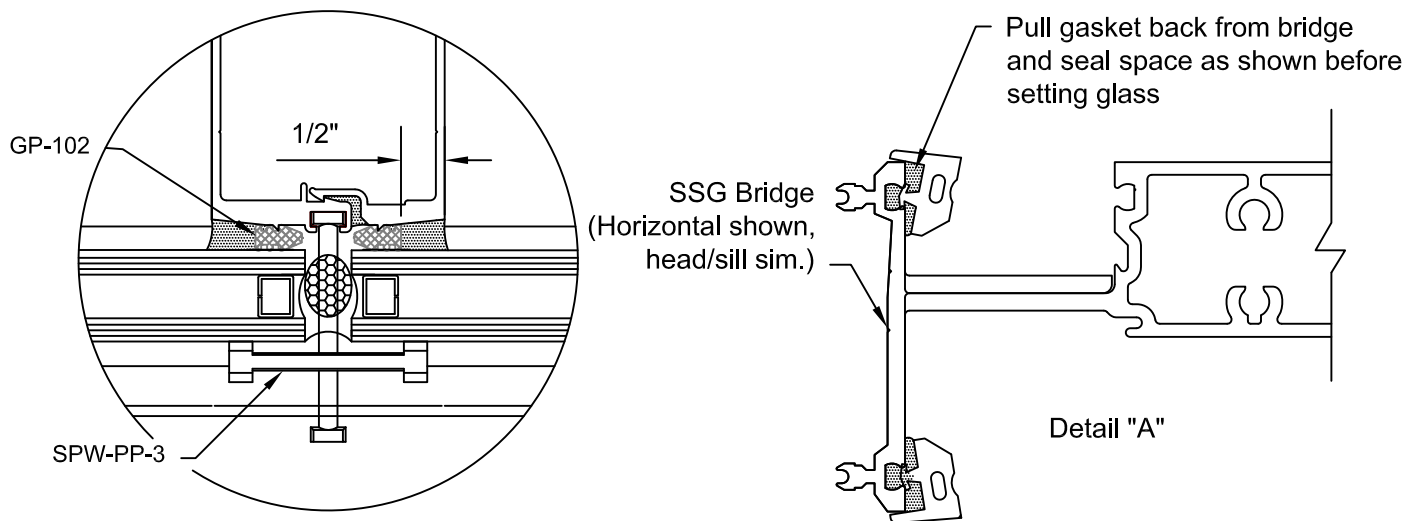

FIGURE 32
- 4.24 Once glass is centered into opening, install temporary clips (SPW-PP-3) at 24" o.c. or minimum 3 per lite. Install GP-102 spacer along each side of vertical mullion pushing spacer behind glass to create a sealant joint of minimum 3/8" depth. Spacer should be cut vertical opening plus 1" and placed in opening to extend 1/2" above and below edge of horizontals. This joint should then be cleaned using isopropyl alcohol and sealed using an approved structural silicone. SEE FIGURE 32